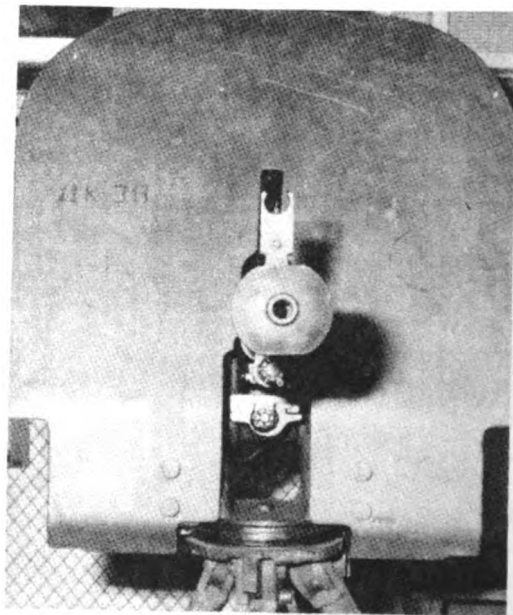

Figure 4
- (2) Adjust front sight: (See fig. 4.)